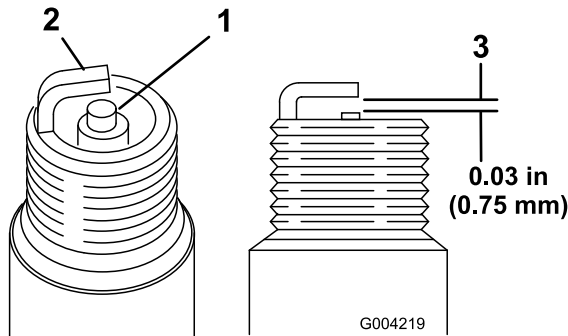

Figure 15
- Look at the center of the spark plug (Figure 15). If you see light brown or gray on the insulator, the engine is operating properly. A black coating on the insulator usually means that the air cleaner is dirty.
- Check the gap between the center and side electrodes (Figure 15). Bend the side electrode (Figure 15) if the gap is not correct.